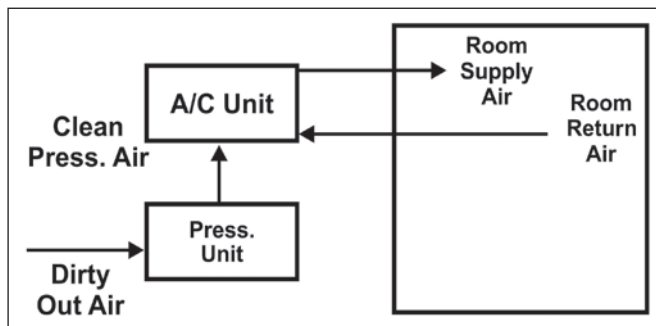

Figure 9: Pressurization option system used for cleaning fresh air
2. Pressurization option (as shown in Figure 9), and